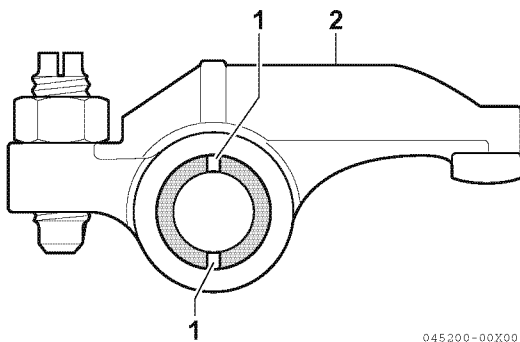

Figure 6-34
Ensure the lubrication holes (Figure 6-34, (1)) in the rocker arm shaft are oriented correctly with respect to the rocker arms (Figure 6-34, (2)).